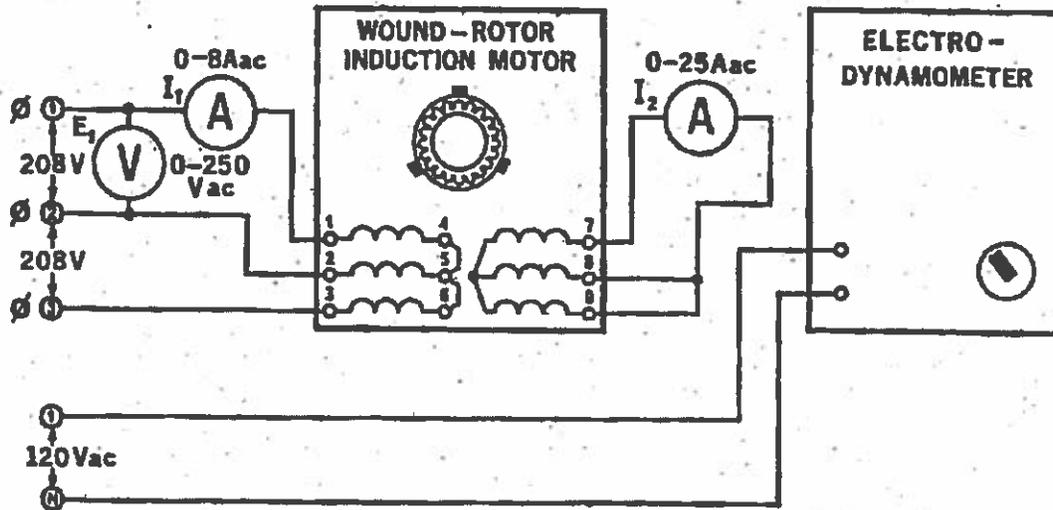

Figure 50-2.
5. a. Connect the circuit shown in Figure 50-2. Note that the fixed 3 ϕ output of the power supply, terminals 1, 2 and 3 are now being used.